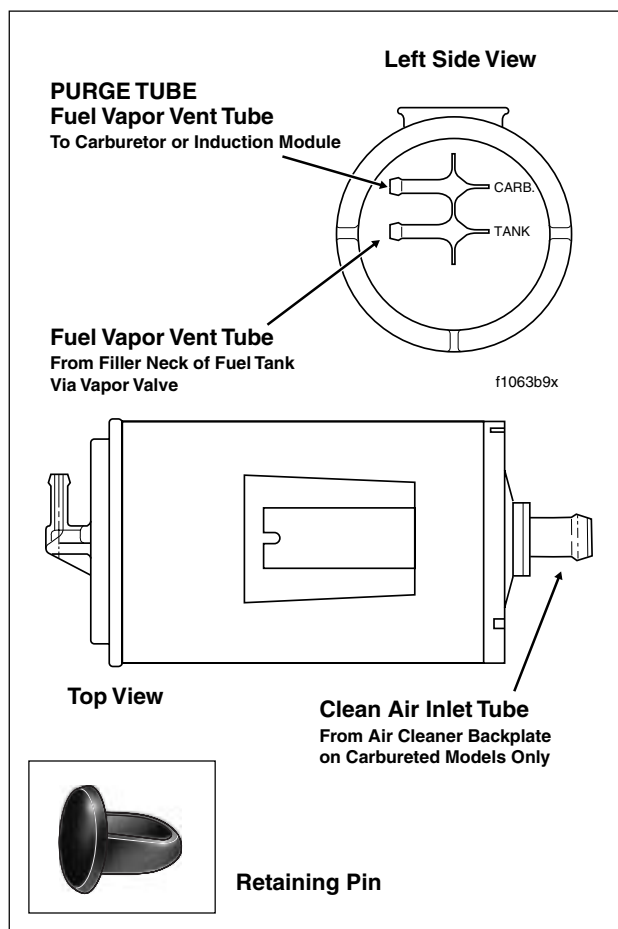

Figure 4-23. Charcoal Canister
5. Reaching into battery box, pry plastic retaining pin out of hole on left side. See inset of Figure 4-23.
7. Moving to rear left side of motorcycle, center a flashlight on drive belt and direct the beam forward. Note the two tube connections on the left side of the canister. See Figure 4-23. Reaching in between battery box and frame member, pull tubes from canister.
1. With tongued side up, slide canister into cavity using opening between battery box and right side frame member. Start tongue into grooves on left side of battery box. Push the canister toward the right side of the motorcycle until fully engaged. Snap plastic retaining pin into hole at bottom of battery box (left side) to lock position of canister. See inset of Figure 4-23.